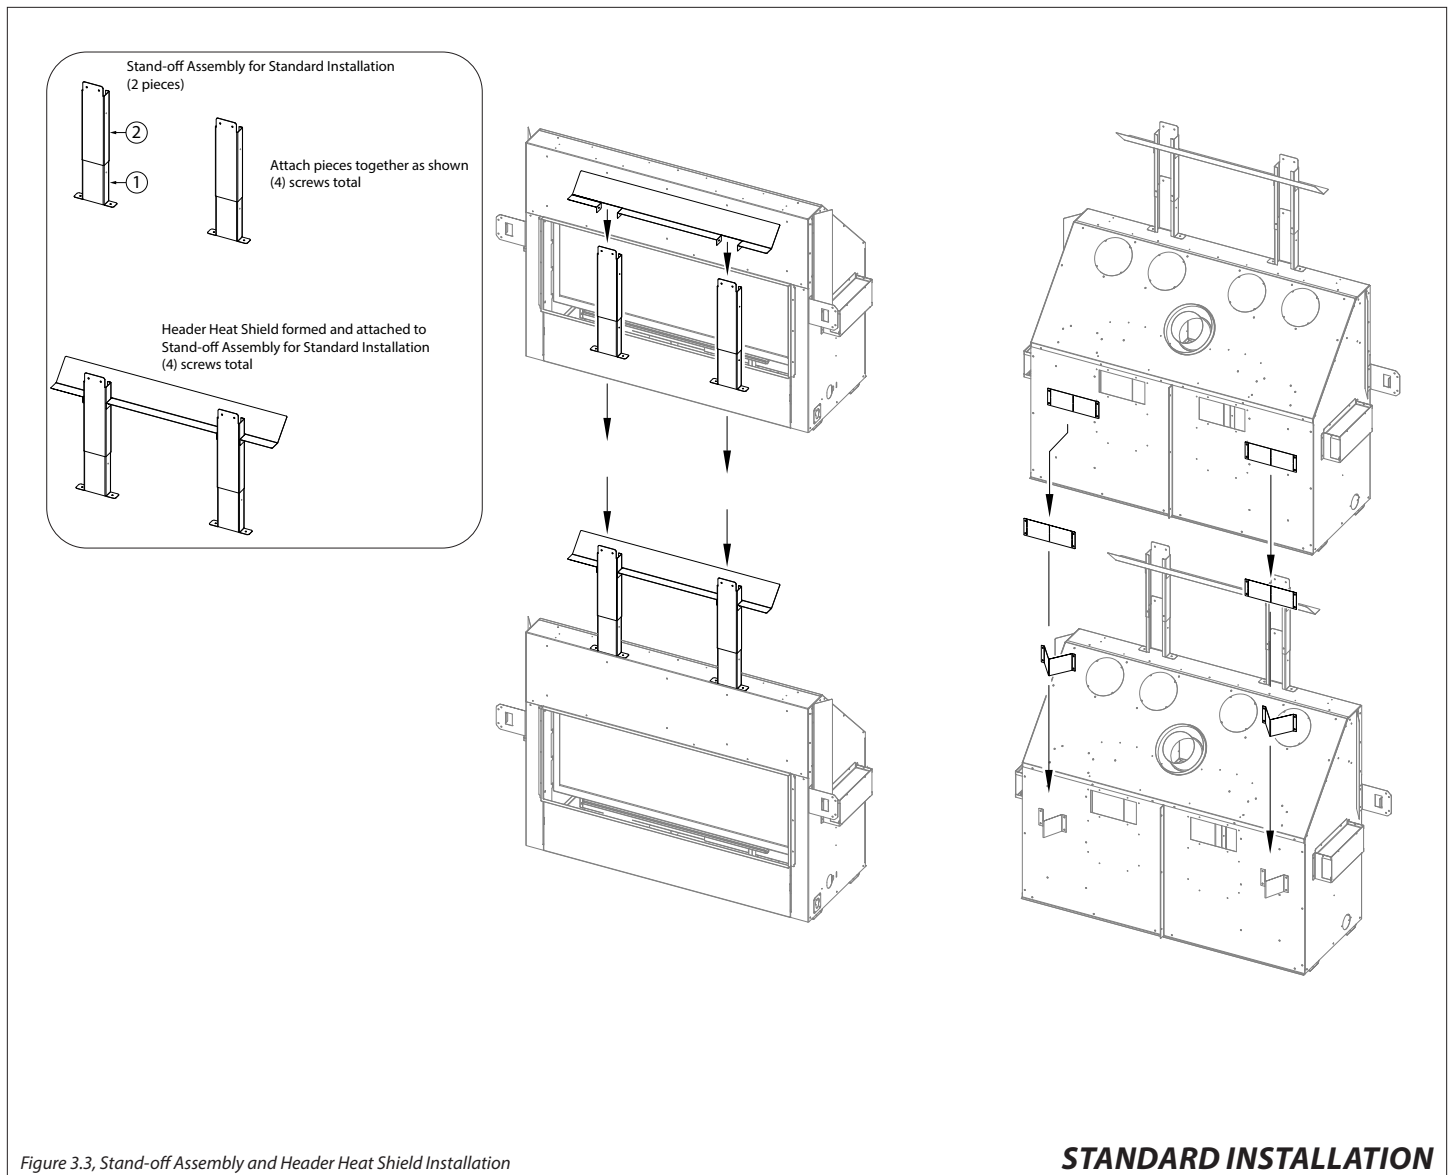

Figure 3.3, Stand-off Assembly and Header Heat Shield Installation
4. Remove and save screws securing the back stand-off brackets. Form the back stand-off heat shields as shown in FIGURE 3.3 on page 13. Secure using screws previously removed.